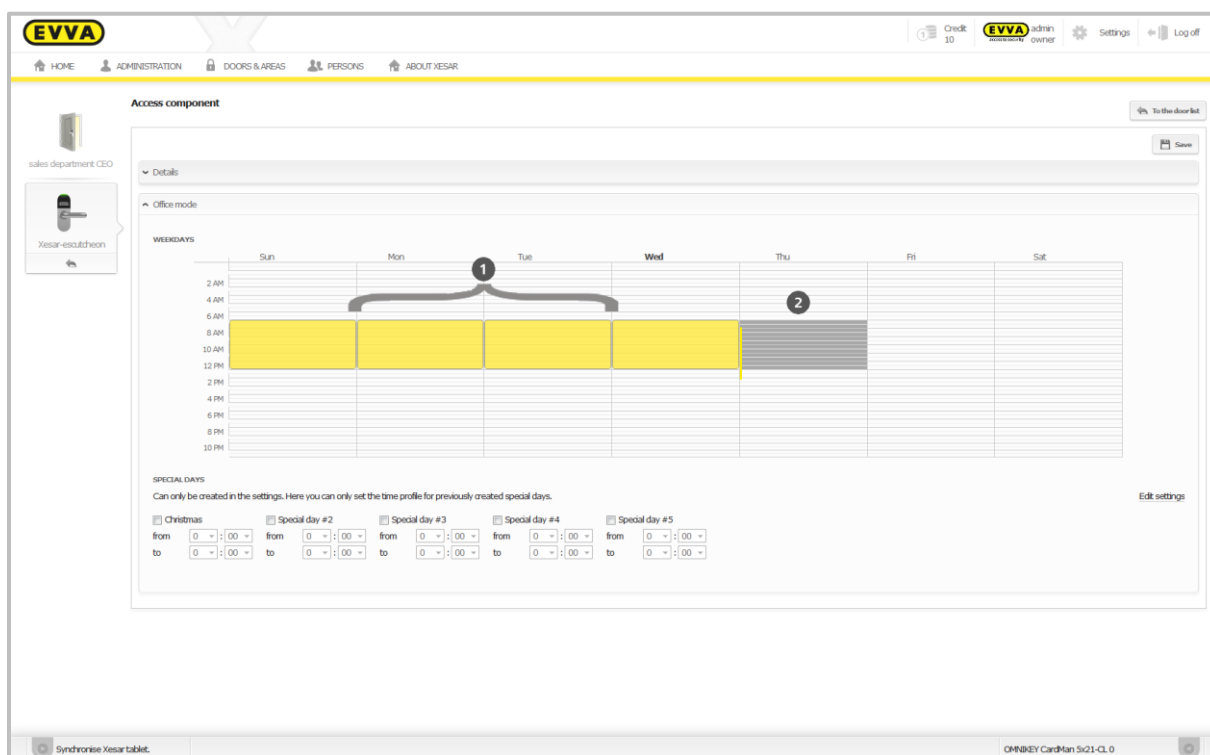

Figure 94: Specifying the office mode period
- Click **Office mode** to open the screen in which you define the individual office mode times ❶ (Figure 94: Specifying the office mode period) for Xesar access components.
- Press and hold the mouse button ❷ (Figure 94: Specifying the office mode period) over the period for the desired weekdays